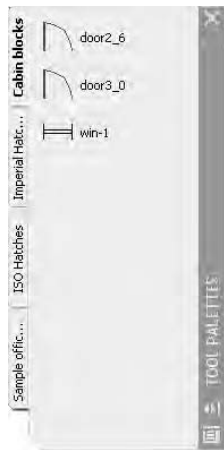

FIGURE 9.24: The new Cabin Blocks tool palette
6. Select door2_6, and then hold down the Shift key and click win-1 to select all three blocks. Then left-click and drag the three blocks over to the new palette. Small images of the blocks are displayed on the Cabin Blocks palette (see Figure 9.24), and they are now available for any drawing. Simply drag a block off the palette onto the drawing. You can then fine-tune its location, rotate it, and so forth. Any layers used by the block will also be brought into the drawing.